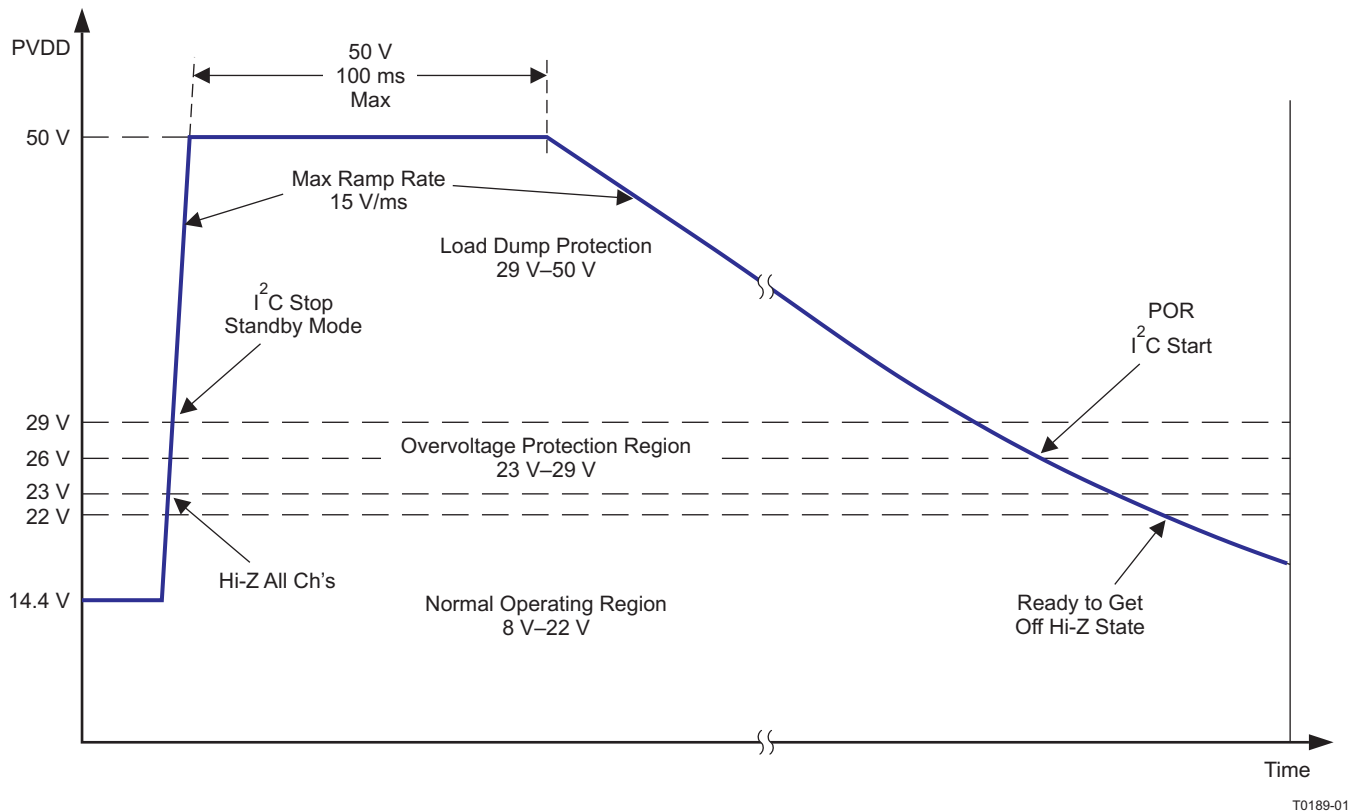

Figure 15. Voltage Operating Regions With Load Dump Transition Defined
6. **Undervoltage (UV) and Power-on-Reset (POR)**—The undervoltage (UV) protection detects low voltages on PVDD, AVDD, and CP. In the event of an undervoltage, the $\overline{\text{FAULT}}$ pin is asserted and the I²C register is updated, depending on which voltage caused the event. Power-on-reset (POR) occurs when PVDD drops low enough. A POR event causes the I²C to go into a high-impedance state. After the device recovers from the POR event, the device must be re-initialized via I²C.
7. **Overvoltage (OV) and Load Dump**—The OV protection detects high voltages on PVDD. If PVDD reaches the overvoltage threshold, the $\overline{\text{FAULT}}$ pin is asserted and the I²C register is updated. If the voltage increases beyond the load dump threshold of 29 Vdc, the device shuts down and must be restarted once the voltage returns to a safe value. After the device recovers from the \neq load dump event, the device must be re-initialized via I²C. The TAS5414A and TAS5424A can withstand 50-V load-dump voltage spikes (see Figure 15). Also depicted in this graph are the voltage thresholds for normal operation region, overvoltage operation region, and load-dump protection region. Figure 13 shows the regions of operating voltage and the profile of the load dump event. Battery charger voltages from 25 V to 35 V can be withstood for up to 1 hour.